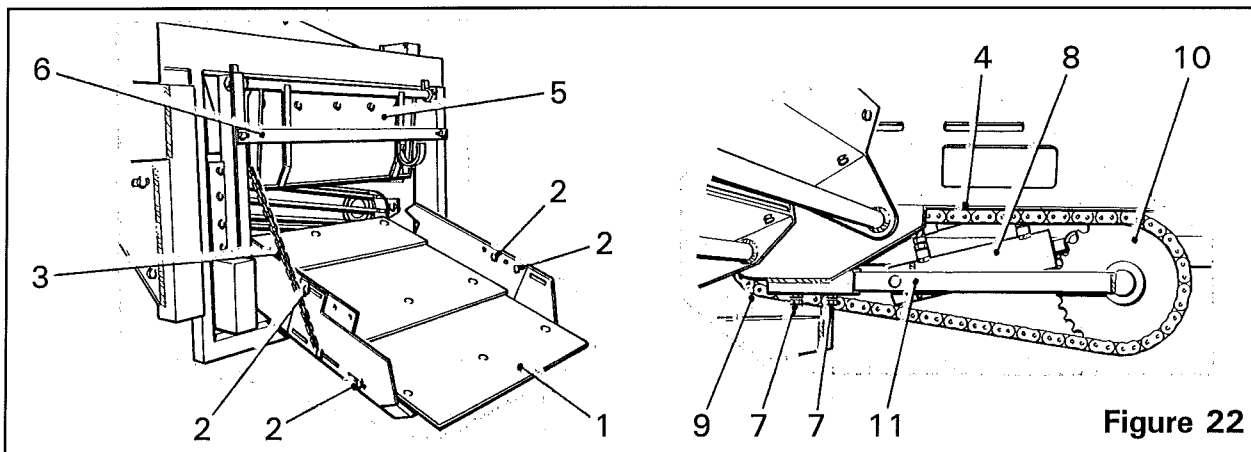

Figure 22
The discharge chute can be adjusted to set the height and reach to match the row widths being worked. The discharge reach is adjusted by extending or shortening the length of the chute (*item 1, figure 22*). The sides and base of the chute are released by slackening the four bolts (*item 2, figure 22*) each side and sliding the end of the chute to the required length. If the end of the slot is reached before the required adjustment is achieved, the bolts can be moved to the next pair of holes showing through the slots which will allow a further 50mm of movement. The height of the windrow chute is set by the chain (*item 3, figure 22*).
The position of the chute when use is set by the length of the chain (*item 4, figure 22*). As the chute is raised it pushes the top flap (*item 5, figure 22*) closed to turn the crop along the cross web to the discharge elevator. The open and closed position of the windrow chute will have been preset at the factory but if necessary can be adjusted as follows:
Set the chute into the transport position and fit the stay (*item 6, figure 22*). Release the clamp screws (*item 7, figure 22*) and remove the chain (*item 4, figure 22*). Open the ram (*item 8, figure 22*) to its fully extended position and refit the chain around the sprockets (*item 9 & 10, figure 22*). Tension the chain by pulling on the ram mounting (*item 11, figure 22*) and retighten the clamp screws (*item 7, figure 22*).